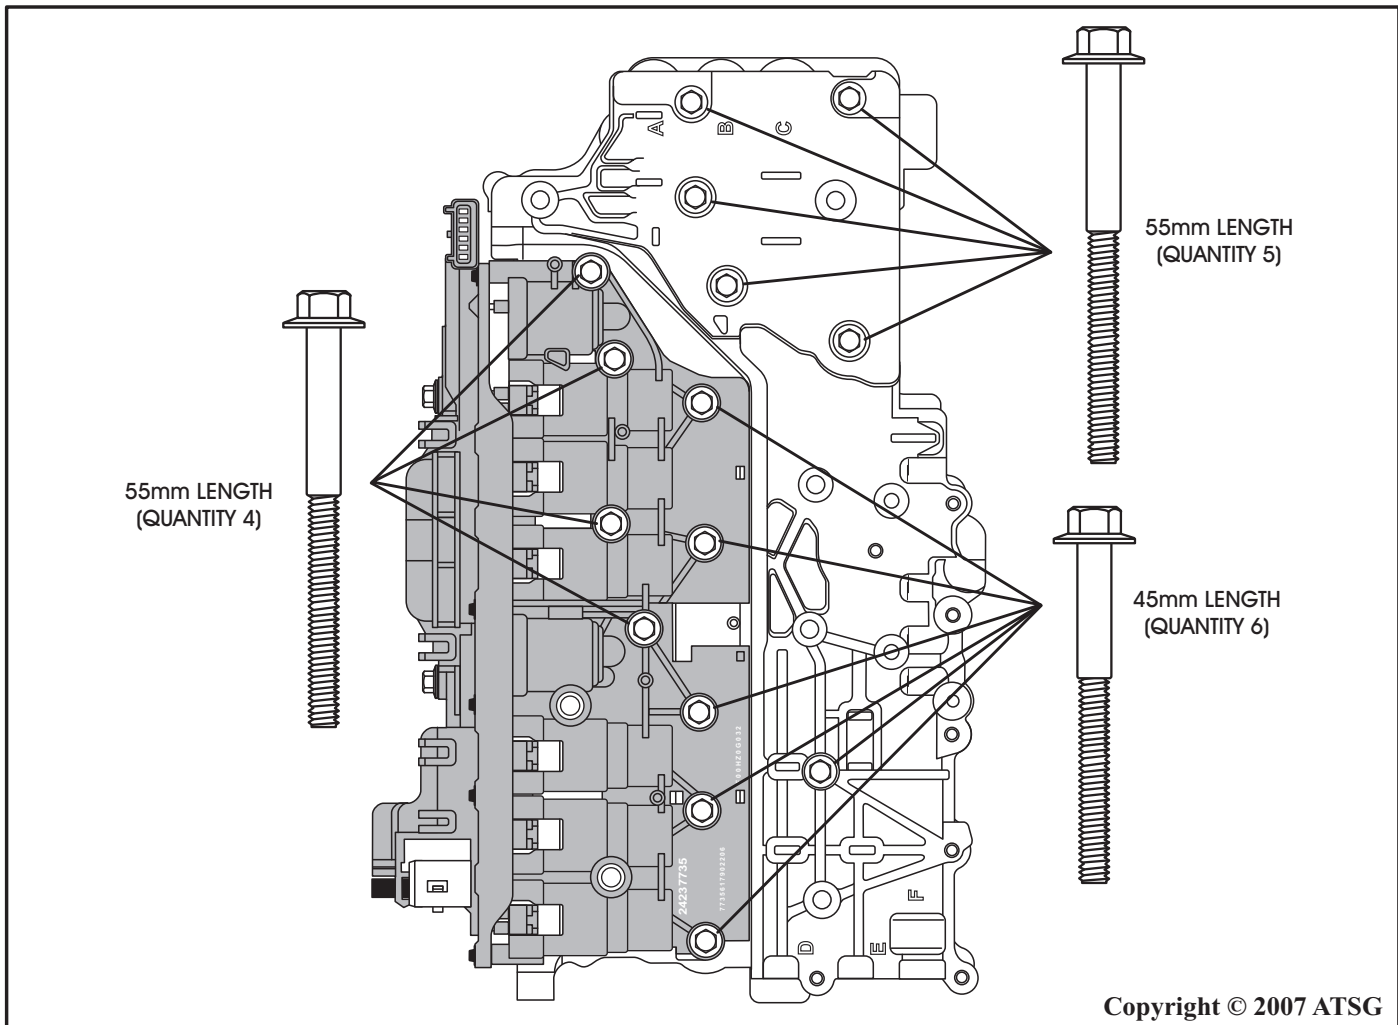

Figure 147
26. Install the nine (9) 55mm length valve body bolts in the locations shown in Figure 147, and hand tighten only at this time.
27. Install the six (6) 45mm length valve body bolts in the locations shown in Figure 147, and hand tighten only at this time.